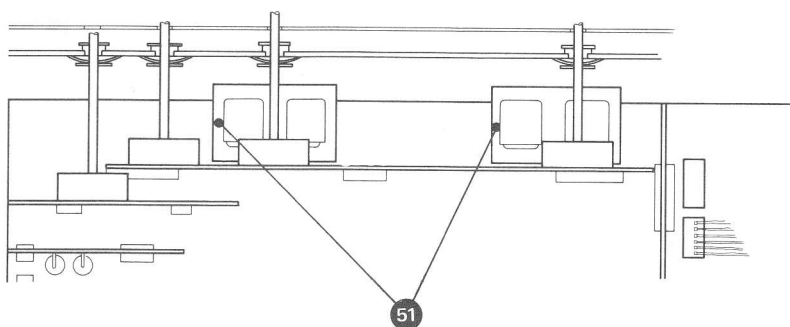

Fig. 3.22.-4
- Remove screw (50) (fig. 3.22. — 3) from the interconnection board.